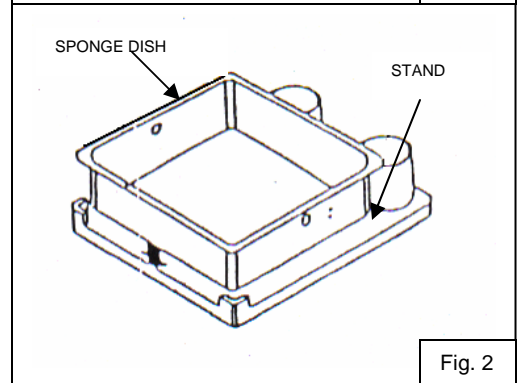

Fig. 2
4. Remove the remaining paper backing from the Adhesive Pad. Place Sponge Dish on Stand in the orientation shown. The 2 holes in the sides of the dish must be over the sides of the Stand. Refer to Figure 2